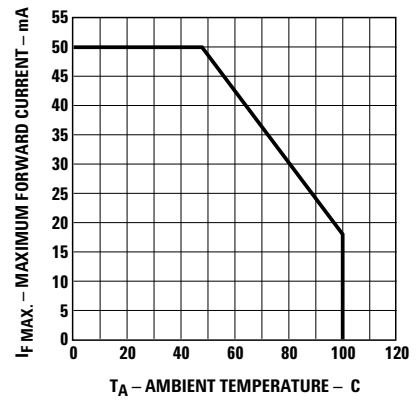

Figure 4. Maximum Forward Current vs. Ambient Temperature. Derating Based on $T_{JMAX} = 130^{\circ}\text{C}$.
- Derate linearly as shown in Figure 4.